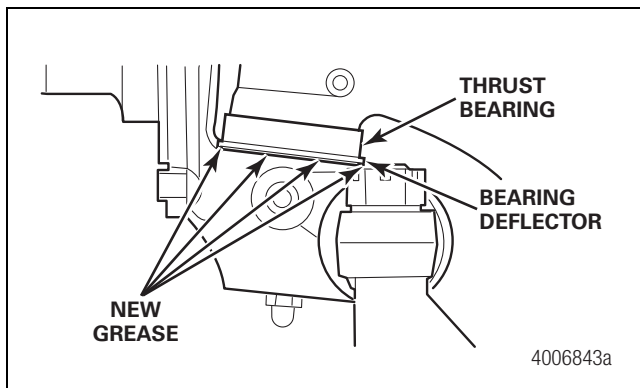

Figure 9.8
6. Apply lubricant into the bottom grease fitting until new grease appears from under the lower lip of the bearing deflector. Figure 9.8.